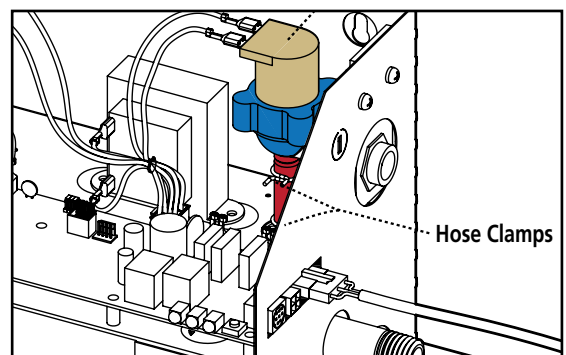

Figure 3
1. Inspect bottom hose clamp. (Fig.3) If hose clamp has moved upward shut power off at main breaker.